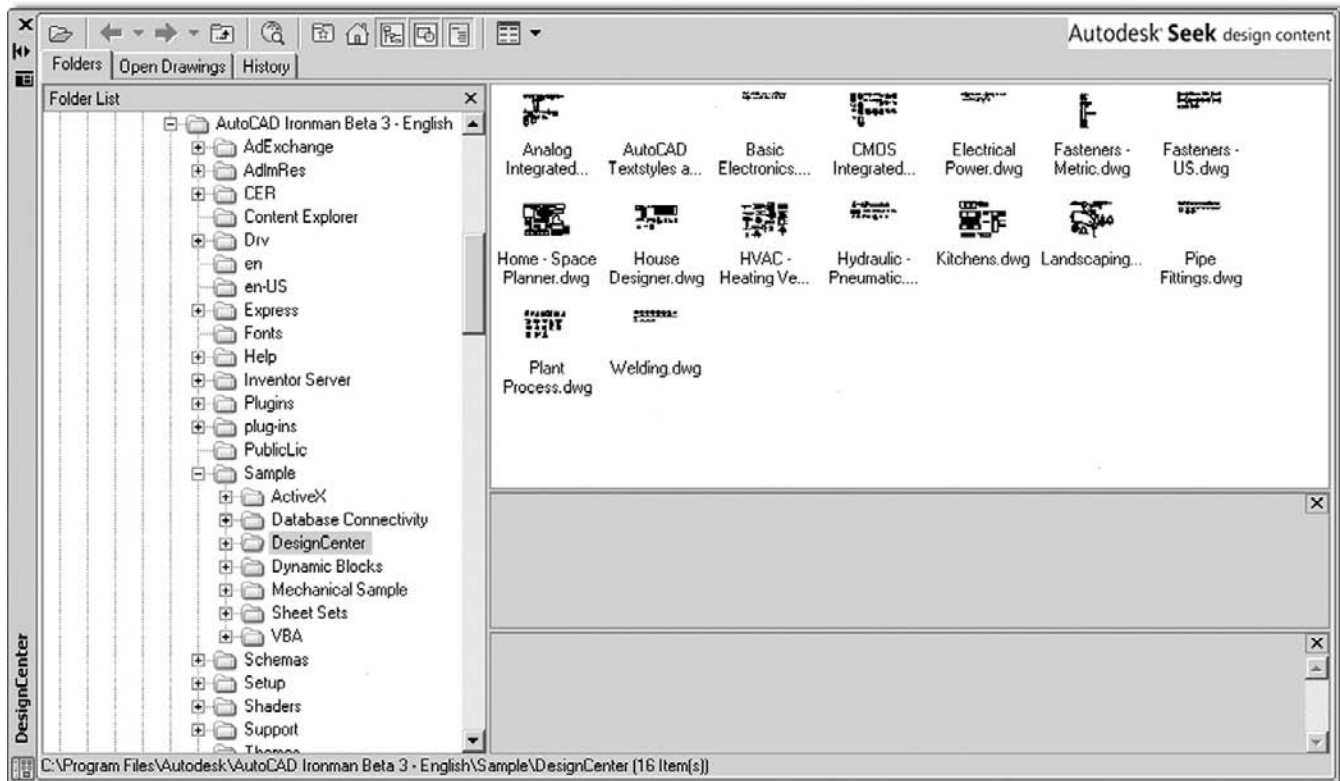

FIGURE 14.24
You can probably guess at one of the purposes of the Design Center (DC) as soon as you open it via the cascading menus **Tools**→**Palettes**→**DesignCenter** (also via typing in `dc` and pressing Enter, or `Ctrl+2`). Be sure to dock it to the left side of the screen (if it is floating) and expand all the sections for good visibility, as shown in Figure 14.24.